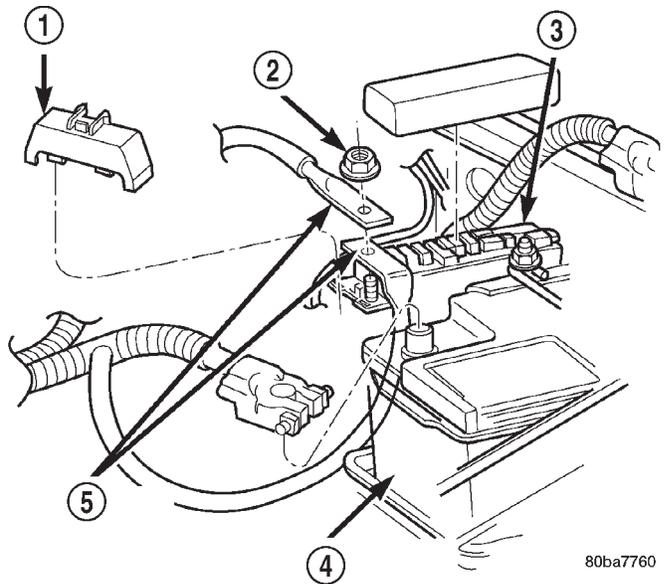

Fig. 4 Power Distribution Center Connections
(1) Disconnect and isolate the battery negative cable.
(2) Disconnect each of the headlamp and dash wire harness connectors. Refer to **Connector Locations** in the index of this service manual for the location of more information on the headlamp and dash wire harness connector locations.
(3) Remove all of the fasteners that secure each of the headlamp and dash wire harness ground eyelets to the vehicle body and chassis components. Refer to **Connector Locations** in the index of this service manual for the location of more information on the ground eyelet locations.
(4) Disengage each of the retainers that secure the headlamp and dash wire harness to the vehicle body and chassis components. Refer to **Connector Locations** in the index of this service manual for the location of more information on the headlamp and dash wire harness retainer locations.
(5) Unlatch and remove the B(+) terminal stud cover from the end of the PDC (Fig. 4).
(6) Remove the nut that secures the eyelets of the battery wire harness PDC take outs to the PDC B(+) terminal stud.